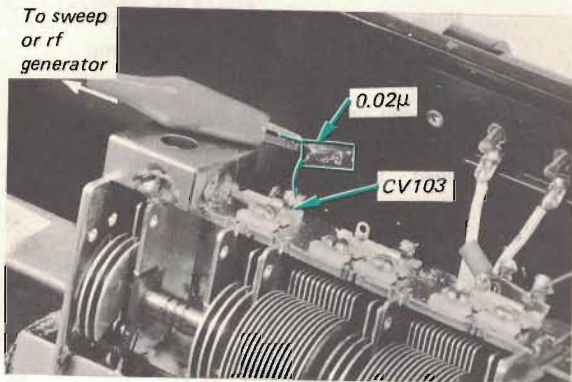

Fig. 3-4 Fm i-f signal injection
3. Connect the output cable of the sweep generator across CV103. Use alligator clips and make the connection through a  $0.02\mu\text{F}$  coupling capacitor as shown in Fig. 3-4.